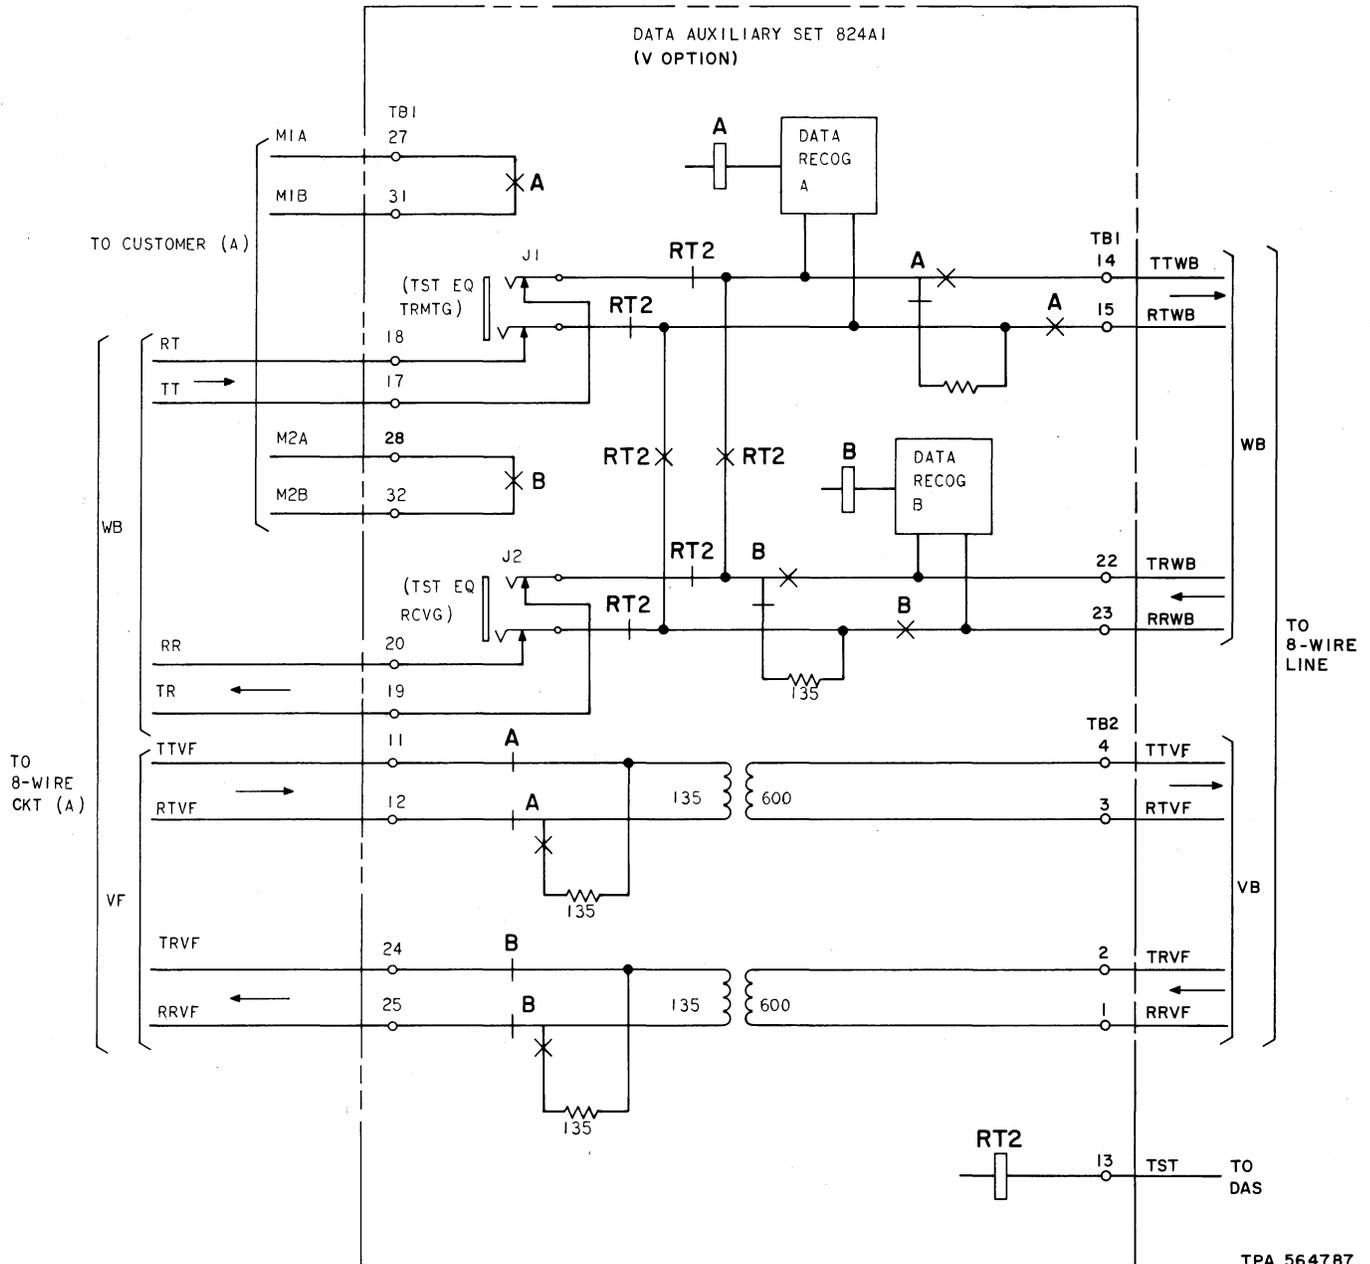

Fig. 8—Eight-Wire Voice Frequency—Wideband Circuit to Eight-Wire Line (Option V)
(4) **Eight-Wire Voice Frequency—Wideband Circuit to Eight-Wire Line (Option V):** Provides the 8-wire to 8-wire interface and independent switching of the customer's voice and wideband data pairs. Also, provides contact closures to the customer when data is detected in either direction of transmission. Refer to Fig. 8.